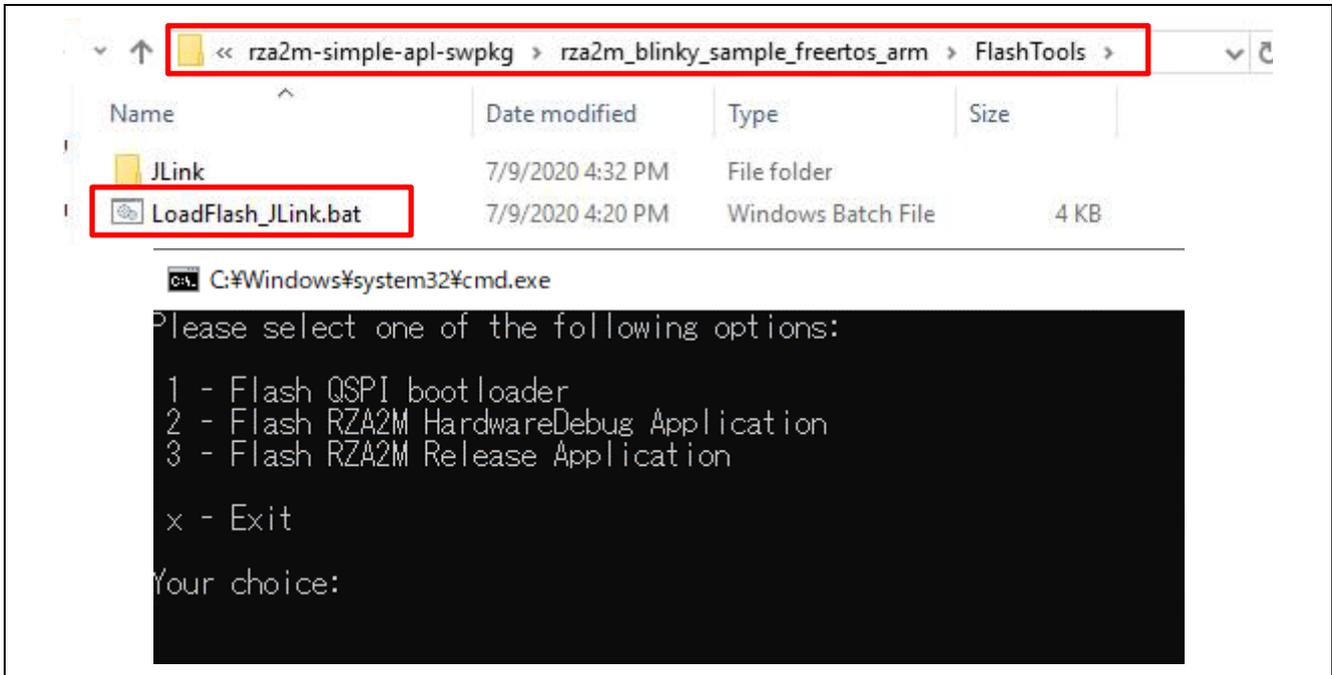

Figure 3-9 Start downloading to the evaluation board
- Download to the evaluation board using J-Link (or J-Link Lite). This section describes the “rza2m\_blinky\_sample\_freertos\_arm” project, but the same applies to other projects. When “LoadFlash\_JLink.bat” in the rza2m\_blinky\_sample\_freertos\_arm\FlashTools folder is executed, the following command prompt screen will start. This is shown in Figure 3-9.